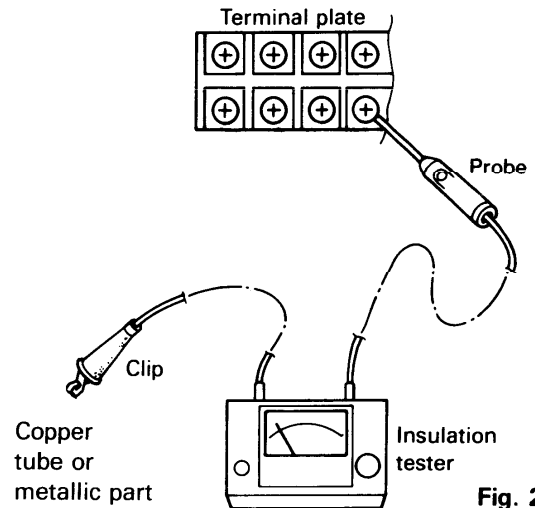

Fig. 2
Clamp the aluminum plate fin or copper tube with a lead clip of the insulation resistance tester and measure the resistance by placing a probe on ⑤, and then ⑥ on the terminal plate. (Fig. 2)
Clamp the metallic part of the unit with a lead clip of the insulation resistance tester and measure the resistance by placing a probe on ⑤, and then ⑥ on the terminal plate. (Fig. 2)